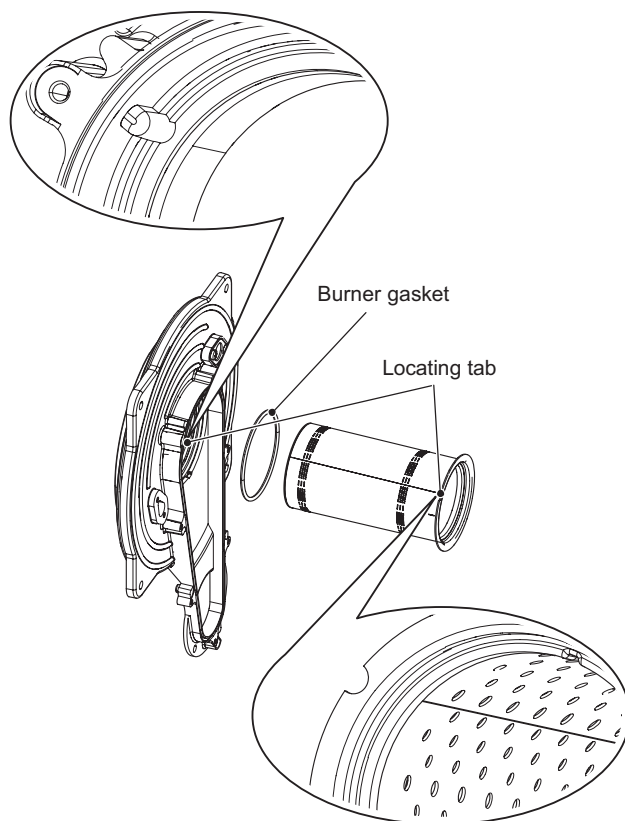

Figure 18.4
- 6 Assemble the burner carrying out the removal operation in reverse order. Ensure the burner is correctly located by lining up the locating tab (Figure 18.4).